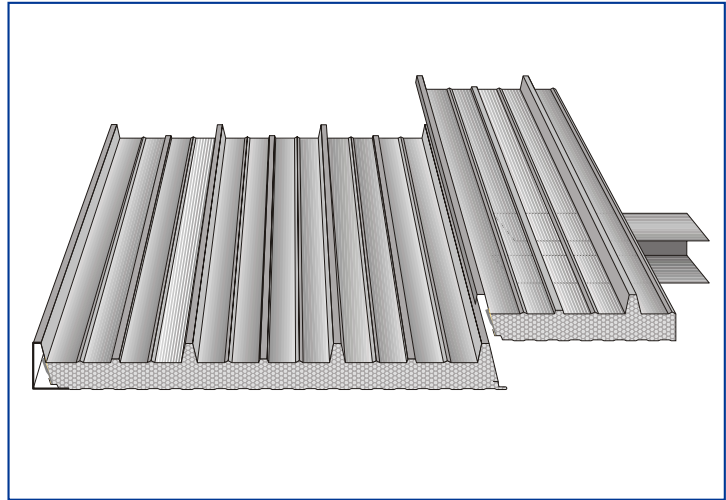

Fig. 12
4.1.4.5 The second panel is installed by overlapping the raised fret over that of the first panel and fix them together as described below. (Fig.12).